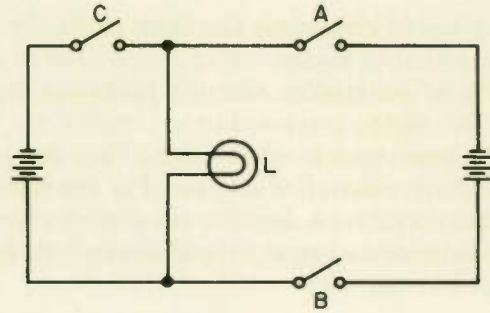

Fig. 7
4. If L is a light and A , B , and C are switches, then $L = A + (B \times C)$ means (This does not refer to Fig. 7.) _____
5. The Boolean equation describing the circuit of Fig. 7 is _____